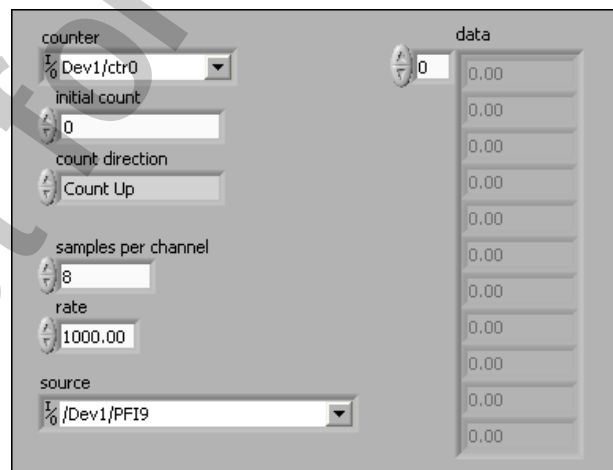

Figure 6-6. Simple Edge Counting - Finite Buffered VI Front Panel
4. Arrange the front panel controls as shown in Figure 6-6.